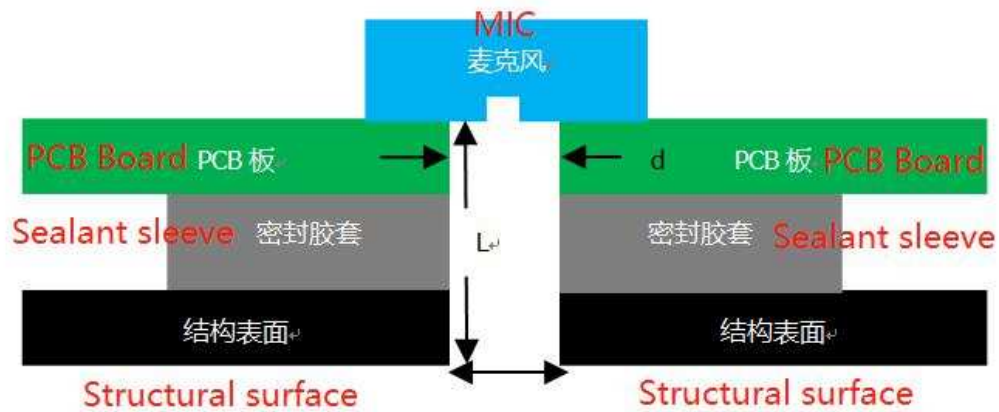

Fig2 Bottom MEMS Mic
- 1) Figure 1 shows the TOP pickup microphone, and Figure 2 shows the Mic of Bottom pickup, where L represents the depth and D represents the opening diameter. D represents the hole diameter of PCB.